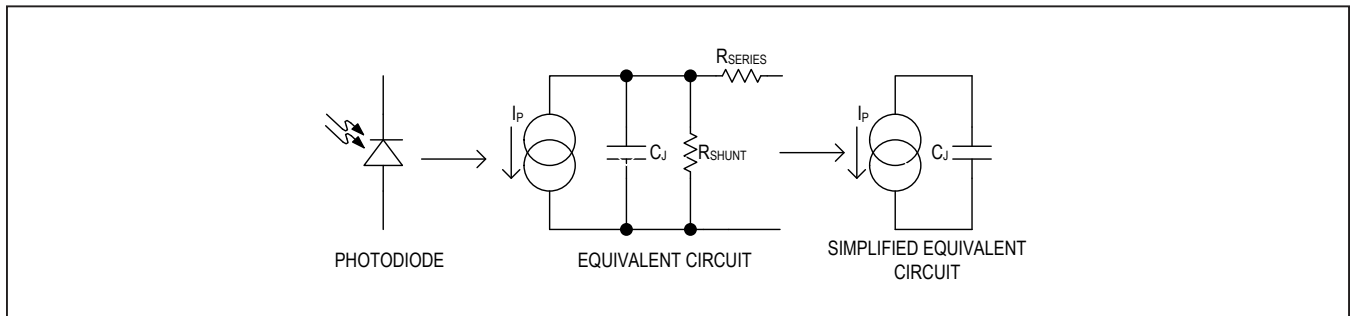

Figure 4. Photodiode Equivalent Circuit Showing Parasitics
**Photodiode Equivalent Circuit (Figure 4):**